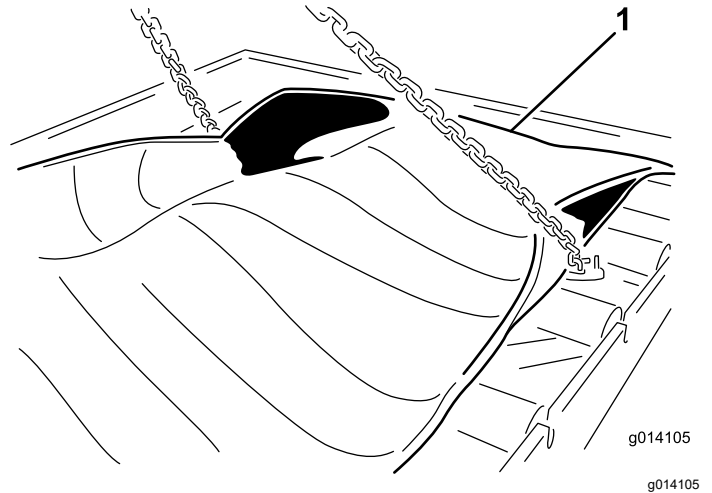

Figure 54
23. Remove the 24 bolts to release the cartridge (Figure 54).